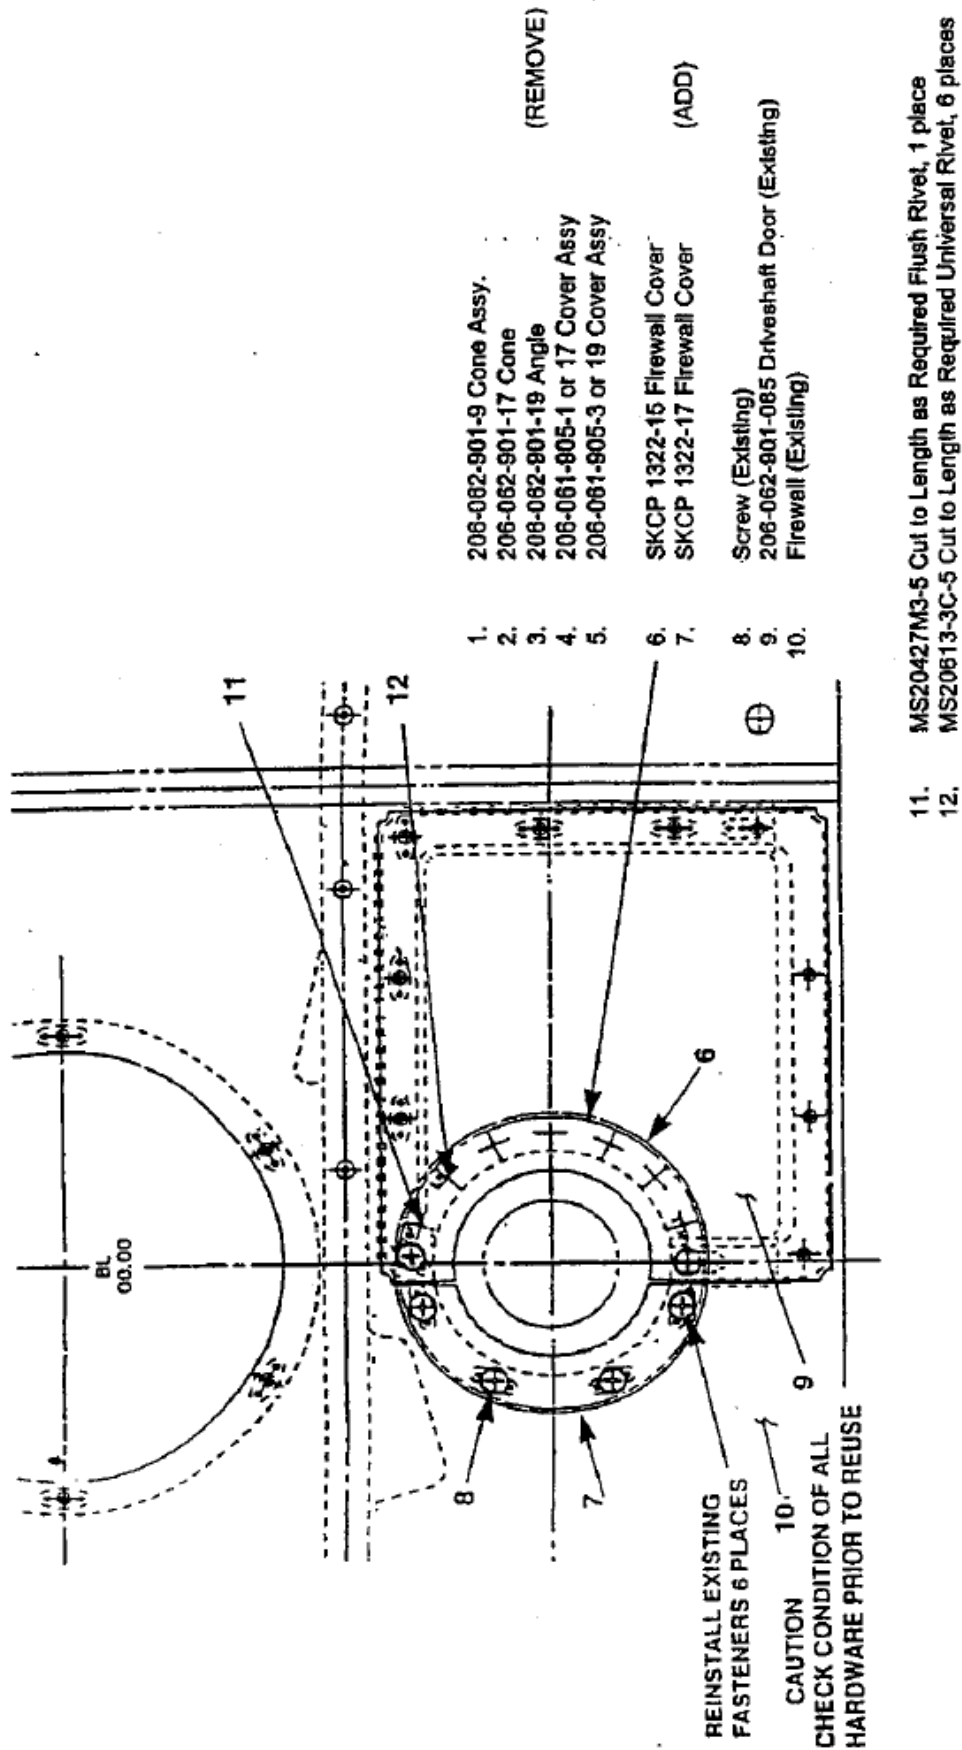
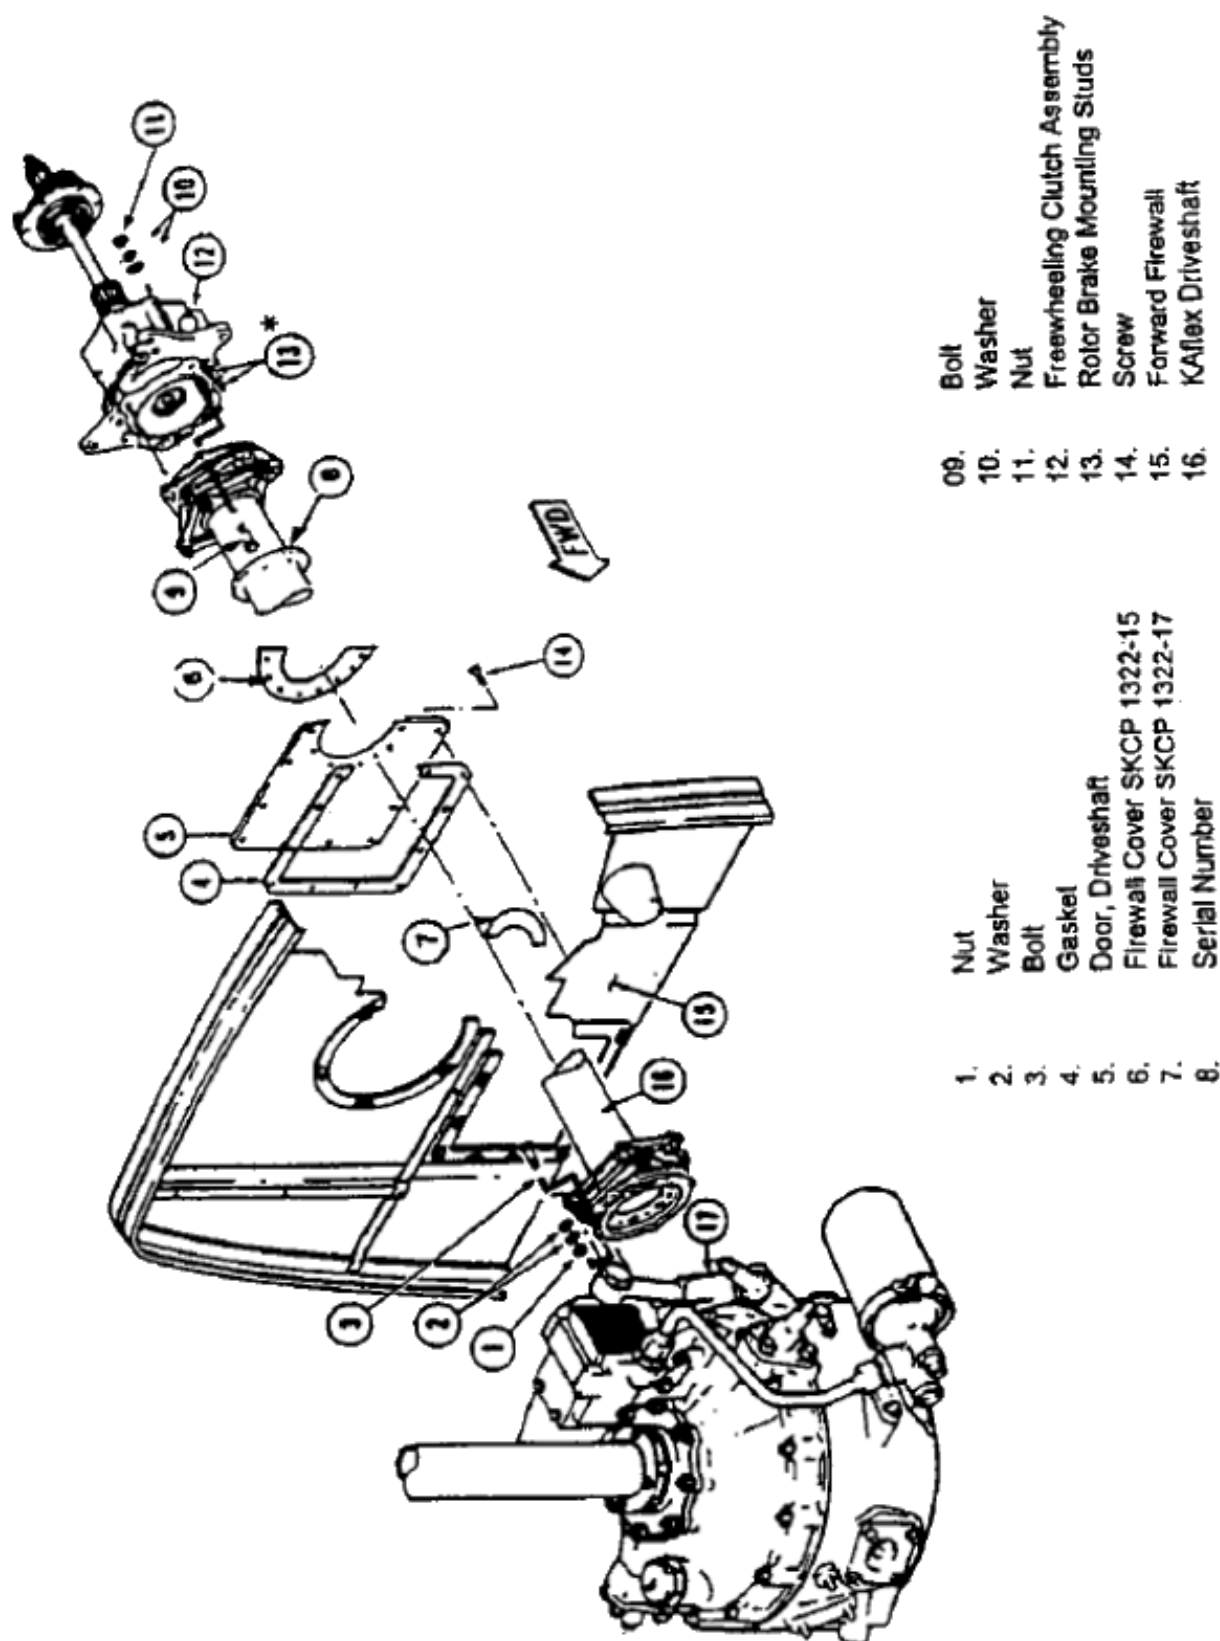

FIGURE 2: Looking FWD
FIGURE 4: KAFlex Driveshaft Installation
- a. Gain access to driveshaft door (Figure 2, Item 9)
- d. Remove cone (Figure 2, Item 2) and angle (Figure 2, Item 3) from driveshaft door.
- e. Align firewall cover (Figure 2, Item 6) and secure with two screws (Figure 2, Item 8).
Ensure firewall cover (Figure 2, Item 6) is installed on the aft side of the driveshaft door (Figure 2, Item 9) with the lip facing forward.
- f. Locate and mark seven rivet holes (Figure 2, Items 11 & 12) on driveshaft door (Figure 2, Item 9)
- g. Remove firewall cover (Figure 2, Item 6) from driveshaft door (Figure 2, Item 9), and drill firewall cover using a 3/32" or .093" drill.
- h. Dimple upper rivet hole (for rivet Figure 2, Item 11) to clear dimple on door. Rivet in this location must be flush to allow driveshaft door (Figure 2, Item 9) to fit flush on firewall (Figure 2, Item 10).
- i. Install firewall cover (Figure 2, Item 6) on driveshaft door (Figure 2, Item 9) and secure with two screws (Figure 2, Item 8).
- j. Cut six MS20613-3C (3/32 Univ. Head CRES) rivets (Figure 2, Item 12) to length, install and rivet firewall cover (Figure 2, Item 6) to driveshaft door (Figure 2, Item 9). Do not install these rivets in top dimpled rivet hole.
- k. Cut one MS20427M3 (3/32 flush Monel) rivet (Figure 2, Item 11) to length, install in dimpled hole and rivet firewall cover (Figure 2, Item 6) to driveshaft door (Figure 2, Item 9).
- e. Install four bolts (Figure 4, Item 3) at the forward portion of the KAflex Driveshaft, ensuring bolt heads face aft. Do not put washers under bolt heads.
- f. Install eight washers (Figure 4, Item 2), and four nuts (Figure 4, Item 1) on the four bolts. Do not put washers under bolt heads.
- g. Install four bolts (figure 4, Item 9) at the aft portion of the KAflex Driveshaft, ensuring bolt heads face forward. Do not put washers under bolt heads.
- h. Install eight washers (Figure 4, Item 10), and four nuts (Figure 4, Item 11) on the four bolts. Do not put washers under bolt heads.
- i. Torque four nuts (Figure 4, Item 11) in accordance with OEM installation instructions, ensuring pilot is engaged and KAflex Driveshaft end fitting flanges are flat against the freewheeling adapter.
- k. Torque four nuts at the forward portion of the KAflex Driveshaft (Figure 4, Item 1) in accordance with OEM installation instructions, ensuring pilot is engaged and KAflex Driveshaft end fitting flanges are flat against the Quill Adapter.
6. Driveshaft Door Installation (Figure 4)
- a. Install firewall cover (Figure 2, Item 7) using 4 screws (Figure 2, Item 8).
- b. Install driveshaft door (Figure 2, Item 5) and gasket, (Figure 2, Item 4) using 11 screws (Figure 2, Item 8) and remaining 2 screws (Figure 2, Item 8).
- c. **Turn KAflex[®] Driveshaft by hand to ensure proper operation and clearance. Check clearance between the driveshaft and firewall covers (Figure 2, Items 6 & 7) at four positions, 3 o'clock, 6 o'clock, 9 o'clock and 12 o'clock. Minimum clearance must be 0.450".** If the clearance is less than 0.450", it can be adjusted by loosening 4 screws (Figure 2, Item 8) and sliding firewall cover (Item 7) or by loosening 11 screws (Item 14) and sliding driveshaft door (Item 5) within the clearance of the screw hole and then re-tightening the screws.
1. KAflex Driveshaft Removal (Figure 4)
- c. From right side of the helicopter, remove 15 screws (Figure 4, Item 14) securing firewall cover (Figure 2, Item 7), and driveshaft door (Figure 2, Item 9) to firewall. Remove firewall cover (Figure 4, Item 7) driveshaft door (Figure 4, Item 5), and gasket (Figure 4, Item 4) from aircraft.
- d. Remove 4 nuts (Figure 4, Item 1), 8 washers (Figure 4, Item 2) and 4 bolts (Figure 4, Item 3) securing the forward portion of the KAflex Driveshaft.
- e. Remove 4 nuts (Figure 4, Item 11), 8 washers (Figure 4, Item 10), and 4 bolts (Figure 4, Item 9) securing the aft portion of the KAflex Driveshaft.
2. KAflex Driveshaft Installation (Figure 4)
- g. Install four bolts (Figure 4, Item 9) at the aft portion of the KAflex Driveshaft, ensuring bolt heads face forward. Do not put washers under bolt heads.
- h. Install eight washers (Figure 4, Item 10) and four nuts (Figure 4, Item 11) on the four bolts. Do not put washers under bolt heads.
- a. Torque four nuts (Figure 4, Item 11) in accordance with OEM installation instructions, ensuring pilot is engaged and KAflex Driveshaft end fitting flanges are flat against the Freewheeling Adapter.
- c. Torque four nuts at the forward portion of the KAflex Driveshaft (Figure 4, Item 1) in accordance with OEM installation instructions, ensuring pilot is engaged and KAflex Driveshaft end fitting flanges are flat against the Quill Adapter.
3. Driveshaft Door Installation (Figure 4)